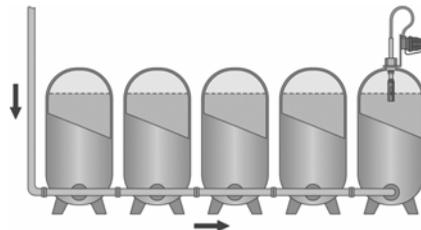

Figure 2: Install the limit indicator on the last tank, when looking in the filling direction.
- **Observe the installation location of the limit indicator pursuant to Figure 2 and 3!**
- **Observe the installation location of the limit indicator pursuant to Figure 2 and Figure 3!**